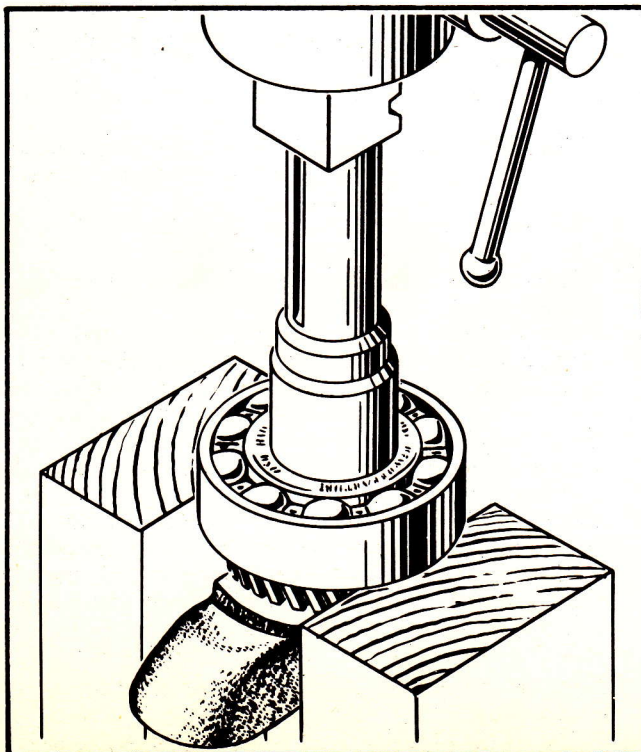

Figure No. 18
1. Ball bearings are firmly seated against the crankshaft shoulders. They can be removed for inspection by supporting both sides of the bearing on an arbor press while pressing the crankshaft out. (See Figure No. 18.)